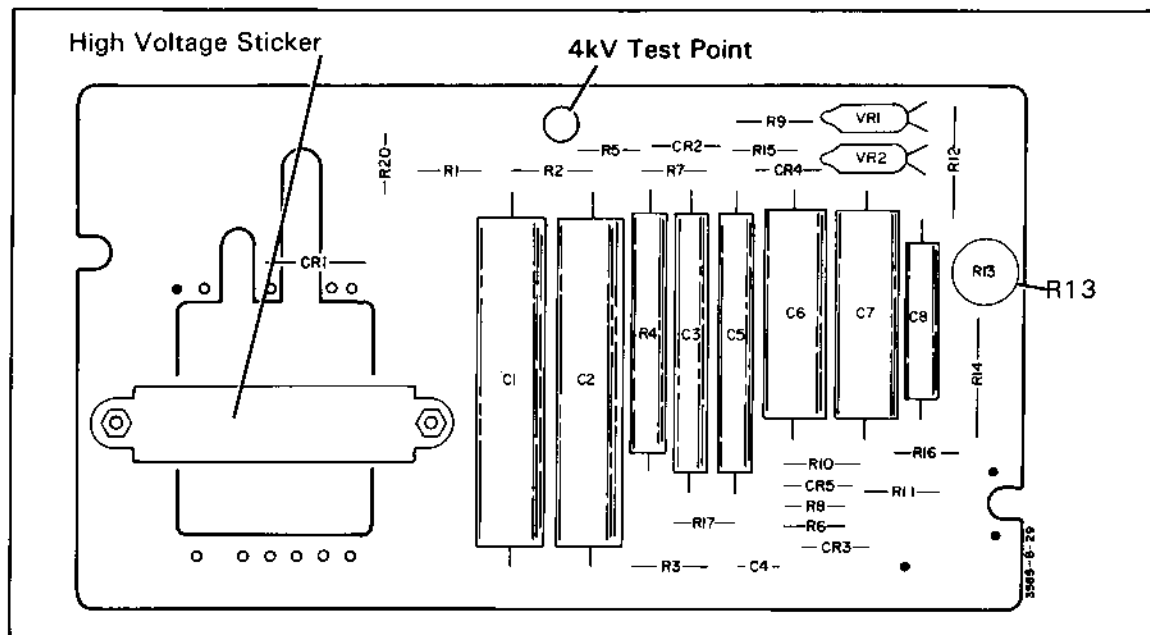

Figure 5-7. High Voltage Board (A65)
- p. Adjust A67R46 for a voltage reading equal to the voltage marked on the high voltage sticker $\pm 10V$. See Figure 5-7 for the location of this sticker.